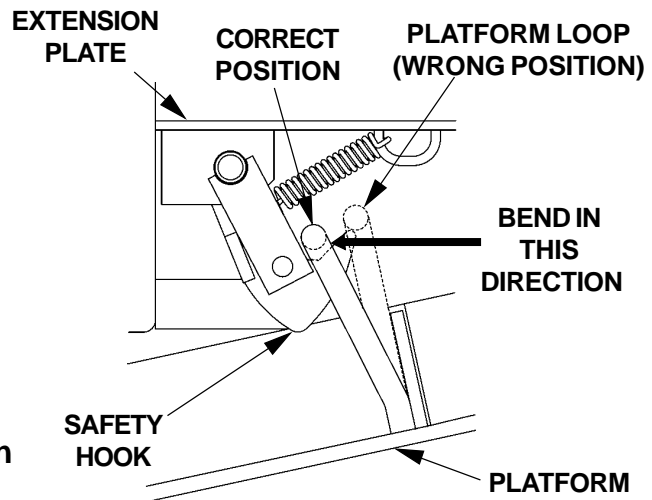

FIG. 14
2. Adjust by bending the Platform Loop as shown in **FIG. 14**.